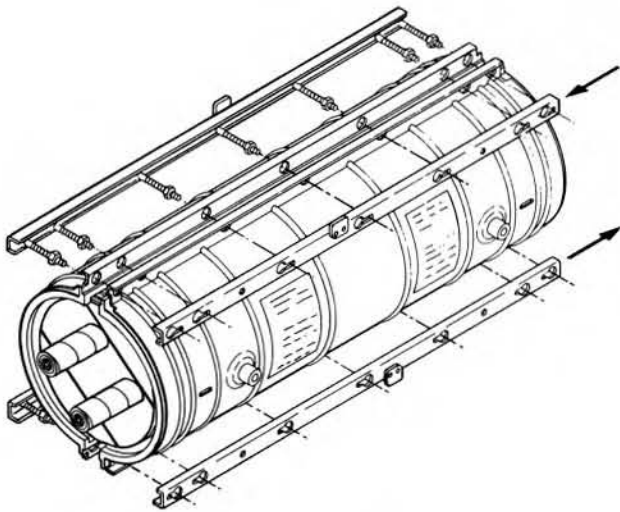

Figure 45
LOCKBAR™ Fastening consists of a (back) studded LOCKBAR™ Assembly with factory assembled threaded bolts and nuts, and a (front) keyhole LOCKBAR™ Assembly. The back LOCKBAR™ Assembly mates with the front LOCKBAR™ Assembly through the flange of the Splice Case shells, and then locks into position. Figure 45.
23.04 Apply the front shell and close the case using the LOCKBAR™ Fastening system. First apply the (back) studded LOCKBAR™ Assembly. Lock into position so that the shells are secure. Figure 45. Be certain to apply the LOCKBAR™ Fasteners into the flange of the splice case, not over it. Also, check to see that the resin flange opening is not over a torque bar.